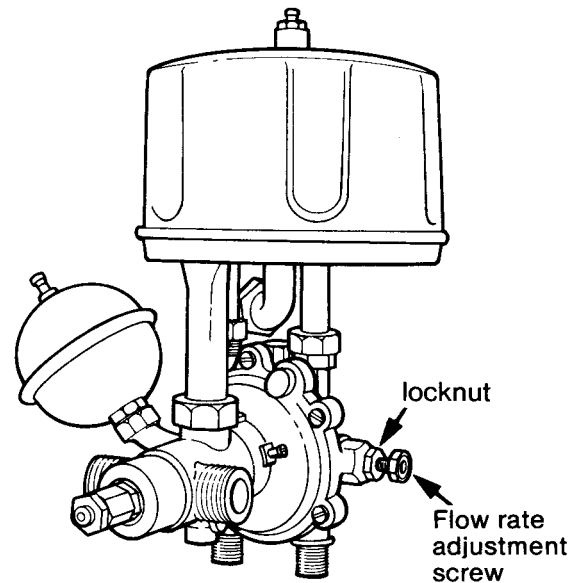

Fig. 25
6.13.6 To adjust the flow rate refer to fig 25 and locate the adjustment screw.